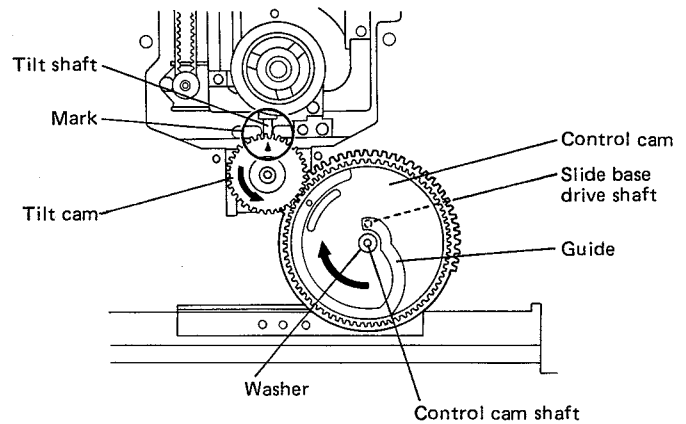

Fig. 16
2. Mount the control cam by passing the control cam's shaft through the hole on the center of the control cam and placing the slide base drive shaft into the guide groove on the back of the control cam, and secure the control cam with the washer. (Fig. 16)
3. Turn the control cam clockwise until it stops. Retain the control cam in this position until the tilt cam, gear (A) and loading gear have been mounted. (Fig. 16)
4. Holding the tilt cam so that its mark points to the tilt shaft, mount the tilt cam by passing the tilt cam shaft through the cam hole. Then, lower the tilt cam to a position with which the tilt cam gear does not engage with the control cam gear, and turn the tilt cam counterclockwise until it stops. (Fig. 16)